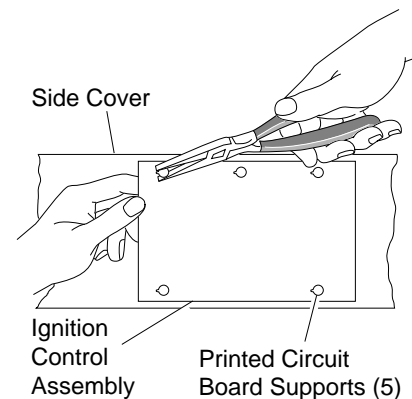

Figure 30 - Removing Circuit Board
3. Using needle nose pliers, squeeze the tab on the printed circuit board support and lift up on the edge of the ignition control assembly (see Figure 30). Repeat this for the other four printed circuit board supports then remove the assembly.